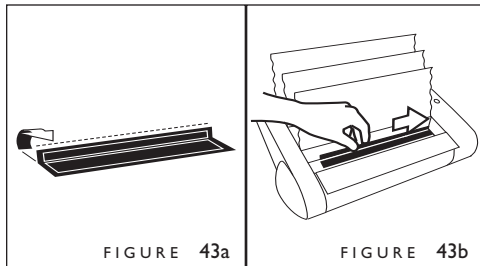

FIGURE 43a
3. Fold the strip to a 90° angle (figure 43a). Make sure the adhesive side faces inward.